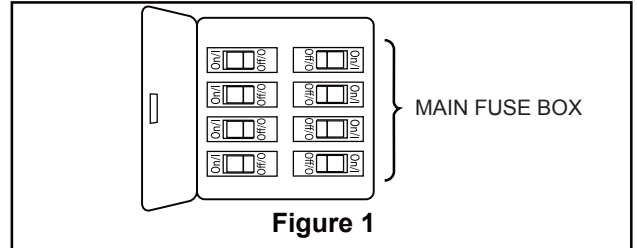
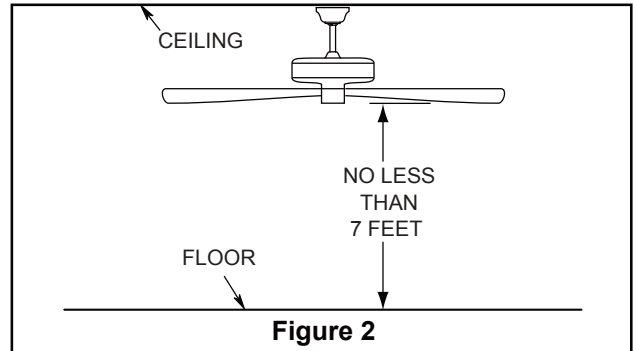
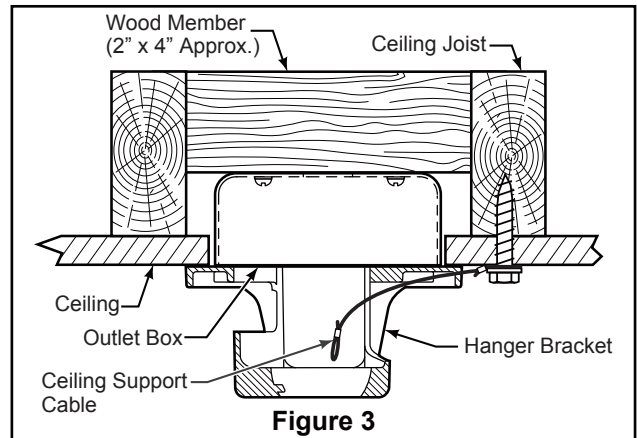

Figure 1
Figure 2
Figure 3
Your new ceiling fan will require a grounded electrical supply line of 120 volts AC, 60 HZ, 15 Amp Circuit. Electrical code requires use of a fan-rated outlet box to support the extra weight and motion associated with a ceiling fan. A fan-rated box will be labeled as such and typically supports up to a 70lb ceiling fan. Fan-Rated Outlet Boxes vary in ratings and design. Ensure the ratings of your ceiling fan outlet box meet the requirements for the ceiling fan being installed. Figure 1, Figure 2 and Figure 3 depicts different structural configurations that may be used for mounting the outlet box.
### Low-profile use (Figure 1)
### Deep-profile use (Figure 2)
### Brace use (Figure 3)
1. Remove the hanger ball portion from the downrod/hanger ball assembly by loosening the set screw in the hanger ball until the ball falls freely down the downrod. Remove the pin from the downrod, then remove the hanger ball. Retain the pin and hanger ball for reinstallation in Step 6. (Figure 1)
2. Remove the hairpin clip and clevis pin from the bottom of downrod. Retain the pin and clip for reinstallation in Step 4. (Figure 2)
3. Loosen the two set screws in the downrod support. Route black, blue, white and safety cable wires through the downrod. (Figure 3)
To avoid possible fire or shock, be sure electricity is turned off at the main fuse box before hanging. (Figure 1)
The fan must be hung with at least 7' of clearance from floor to blades. (Figure 2)
1. Securely attach the hanger bracket to the outlet box using the outlet box screws and washers supplied with the outlet box. (Figure 3)
2. Drill a 1/4" pilot hole into the building structure to prevent splitting or cracking with installation of the lag bolt. Using the 3/8" x 2" lag bolt and flat washer, attach safety cable to ceiling joist or wood structural member. The lag bolt will pass through the flat washer, safety cable loop, and into the building structure. (Figure 3)
- NOTE:** Ceiling support cable cannot be secured to outlet box only, it must be directly secured to ceiling joist or structural member using the 3/8" x 2" lag bolt and flat washer. (Figure 3)
1. To set the code on receiver unit, slide dip switches to the same positions as set on the remote. (Figure 1)
To avoid possible electrical shock, be sure electricity is turned off at the main fuse box before wiring. (Figure 2)
2. Slide the receiver into the hanger bracket before wiring as shown in figure 3.
2. Securely attach and tighten the canopy screw cover over the shoulder screws in the hanger bracket utilizing the keyslot twist-lock feature. (Figure 2)
2. Secure the blade holders to the motor assembly using the 1/4"-20 screws. (Figure 2)
3. Remove one of the three screws in the support bracket at the bottom of the motor assembly. Slightly loosen the remaining two screws and retain the removed screw. (Figure 3)
- 2.** Restore electrical power to the outlet box by turning the electricity on at the main fuse box. (Figure 2)
- 3.** To make fan operational, install 23A/12V battery (included) in hand-held remote transmitter, with fan power off. Then follow the remote code setting process. (If not used for long periods of time, remove battery to prevent damage to transmitter). Store the remote away from excessive heat or humidity. (Figure 3)